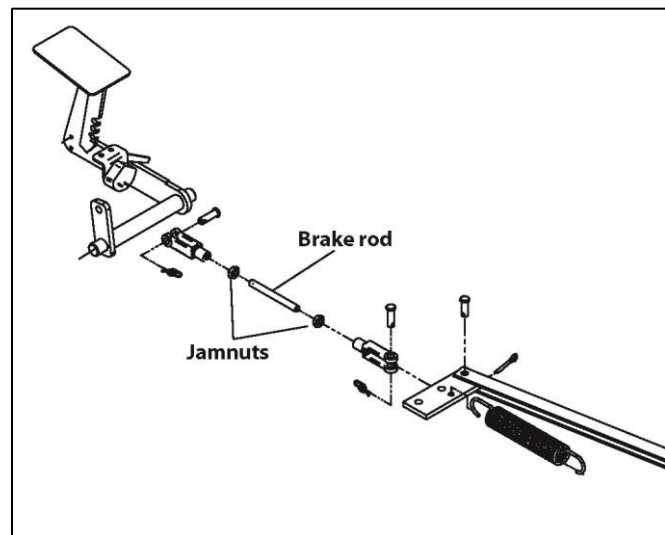

Figure 5-5
1. Look through the floor opening while gently pressing on the brake pedal. The gap between the brake ratchet end and the brake ratchet pawl should be no greater than 1/16"-1/8" (Figure 5-5).